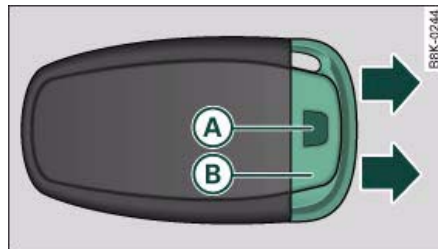

Fig. 31 Remote control key: Removing the emergency key
- Press the release button **(A)** ⇒ fig. 31.